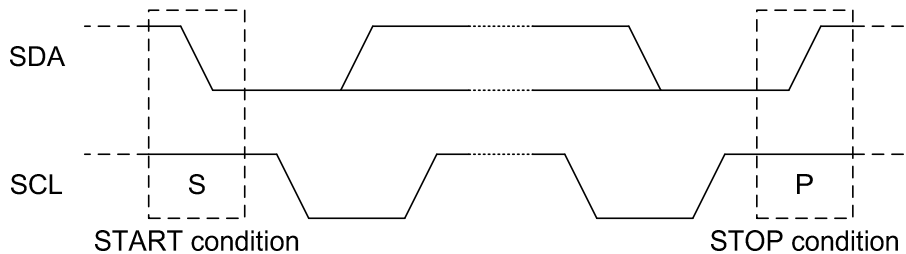

Fig. 5 Definition of START and STOP Condition
Both SDA and SCL lines remain HIGH when the bus is not busy. A HIGH-to-LOW transition of SDA while SCL is HIGH, is defined as the START condition (S). A LOW-to-HIGH transition of SDA while SCL is HIGH, is defined as the STOP condition (P). The START and STOP conditions are illustrated in Fig. 5.